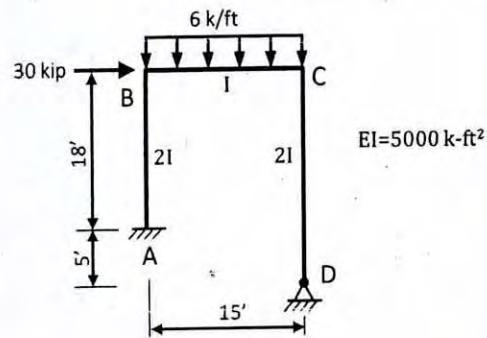

Fig.4
4. Analyze the plane frame of Fig. 4 using flexibility method and determine the forces and moments at support A. (21)